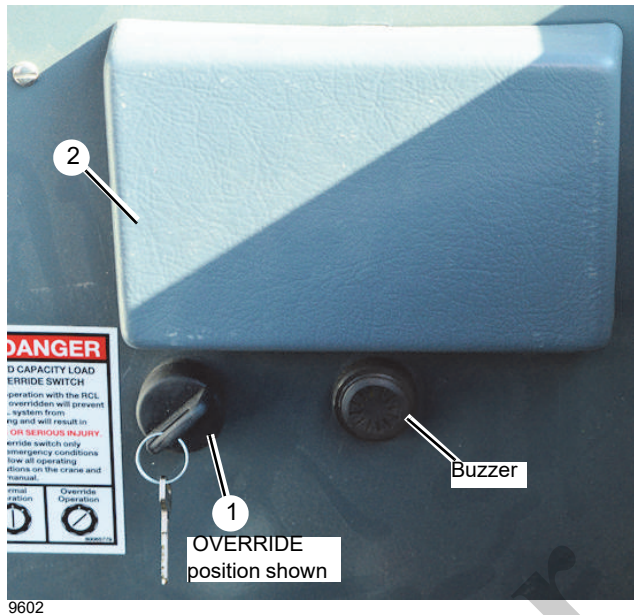

FIGURE 3-7
The RCL bypass switch (1, Figure 3-7) located behind the cab seat, below the fuse relay panel (2), is an off/on switch and overrides the overloaded controls until the switch is turned to the OFF position.